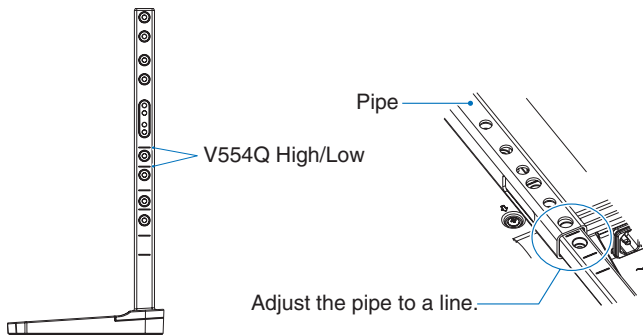

Figure 3
- The lines on the stand pole are indicators of the height adjustment (Figure 3). Please adjust the pipe to the lines.